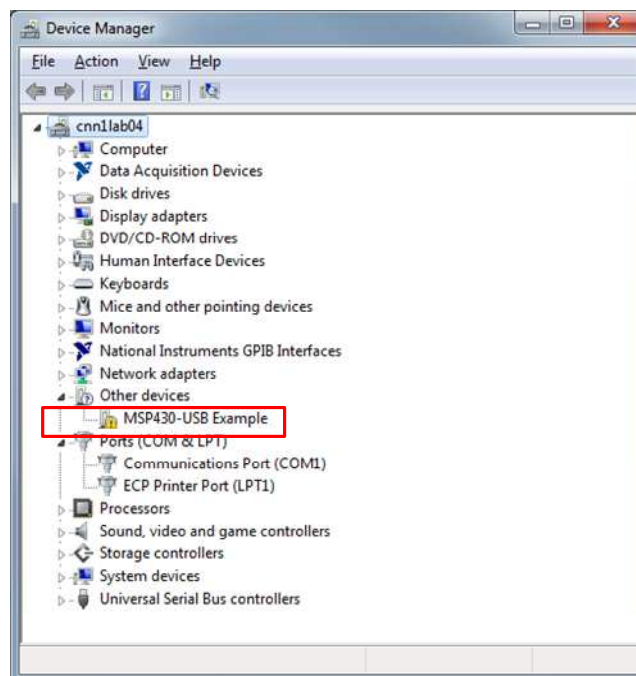

Figure 12. Update Driver Software
5. Before launching the LMP92064EVM software, connect the USB2ANY board to a USB port of your PC. Go to your computer’s “**Device Manager**” and find “**MSP430-USB Example**” (see Figure 12). Right-click on it and choose “**Update Driver Software**”.